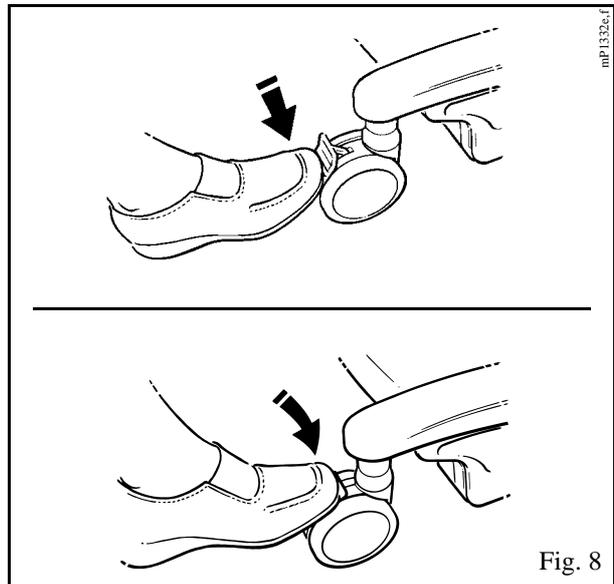

Fig. 8
Chassis castor Brakes:- (See fig. 8) The chassis rear castors have brakes which can be foot operated if required, for example, when leaving the patient unattended, or to keep the *Tempo* in position.
- Note:** The chassis rear castors have brakes which can be foot operated when required (see fig. 8). Do not apply the castor brakes at this stage, as the position of the patient will adjust to his/her own centre of gravity when lifted.